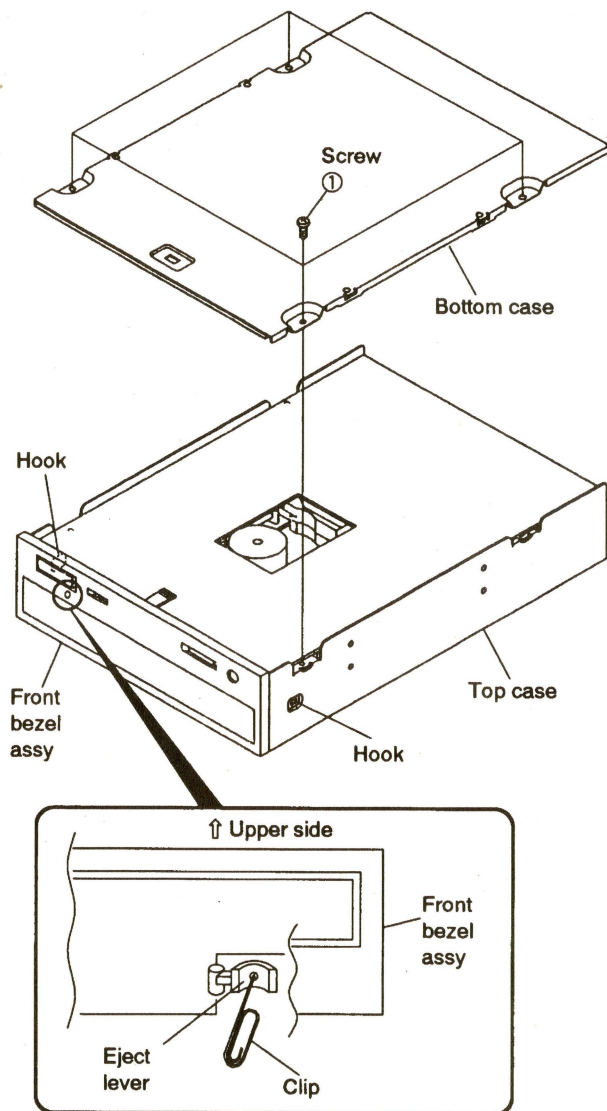

Fig.5-1 Disassembly (Bottom view)
2. Open the door by moving the eject lever which is inserted the key to the hole in vertically and pressing it as shown in Fig. 5-1.